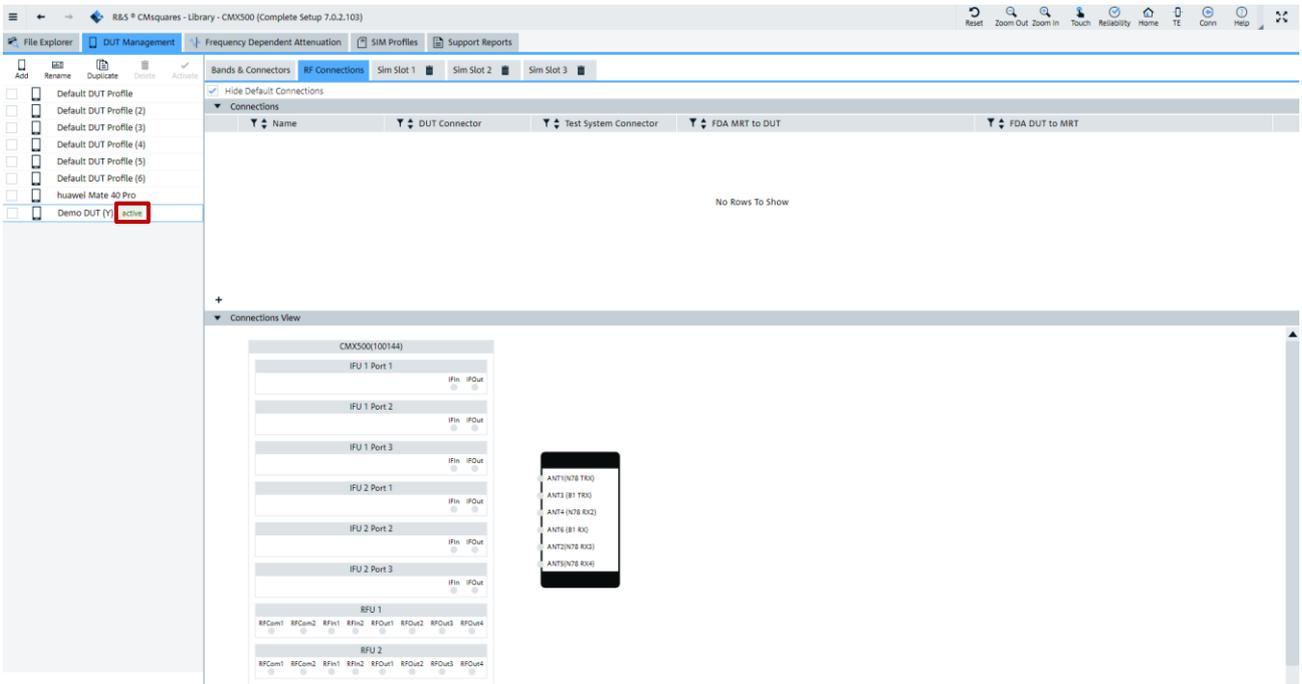

Figure 42 Indication of an active DUT
- The desired DUT has to be activated which then turns the DUT status to be labeled as 'active' (see Figure 42)